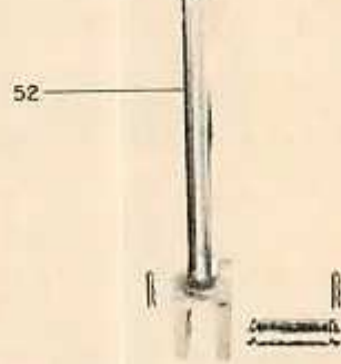

Fig. O162 — Exploded view of 3-inch Hydra-Lectric remote double acting cylinder.
Fig. O163 — Cross-section view of 4-inch Hydra-Lectric cylinder. Cylinder head is retained by snap ring (78); whereas 3-inch cylinder head is retained by capscrews as shown in Fig. O162.